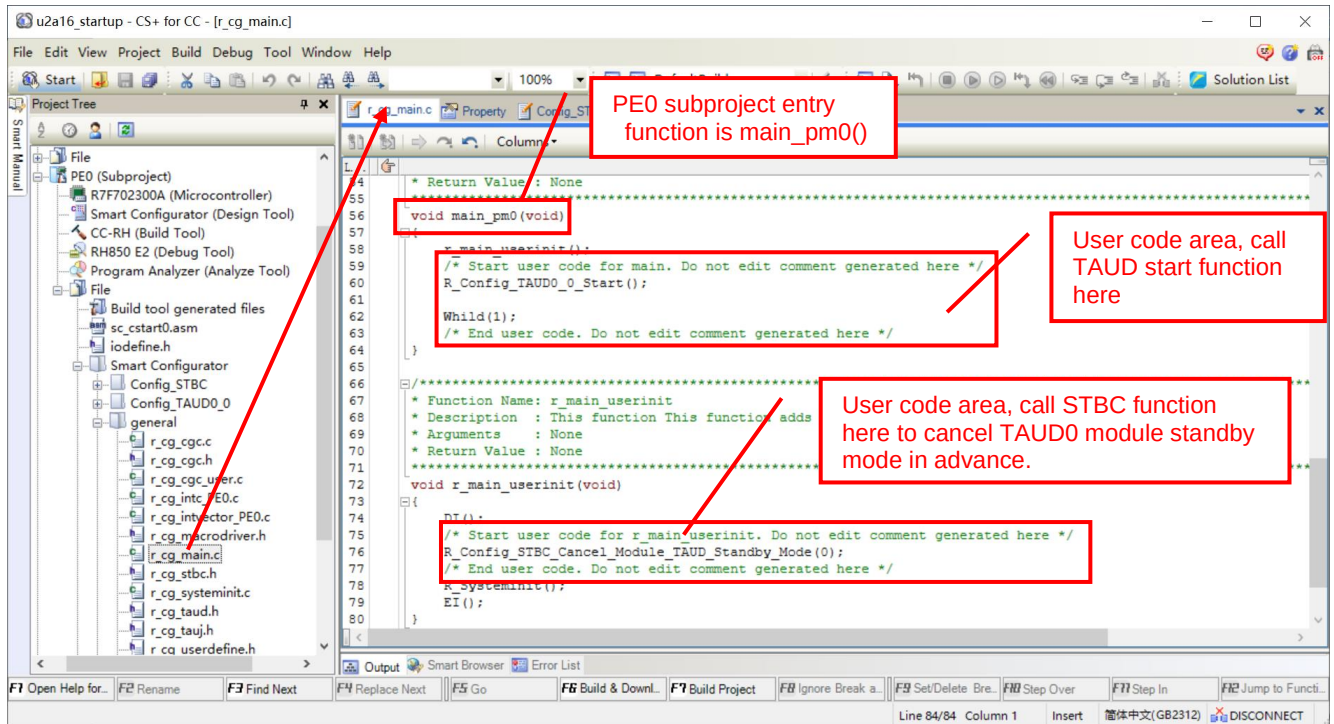

Figure 5-10. Add user code to main_pm0() function
5. Operations in the Smart Configurator	5.3 Adding the Code to the User Code Area Update figure: Figure 5-9. Add user code to the user code area of interrupt routine Figure 5-10. Add user code to main_pm0() function